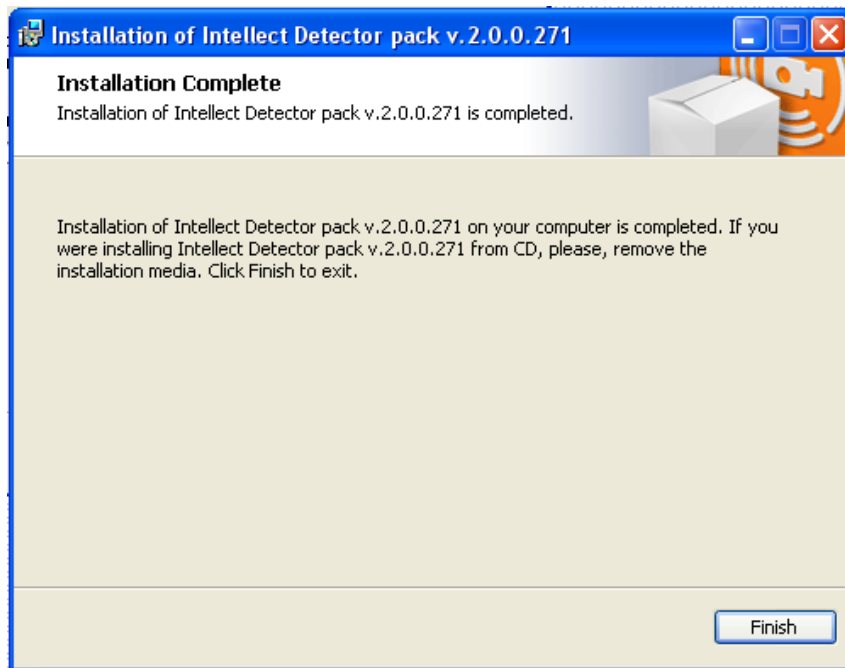

Fig. 5.2—7 Installation complete window
7. Click **Finish** (Fig. 5.2—7).